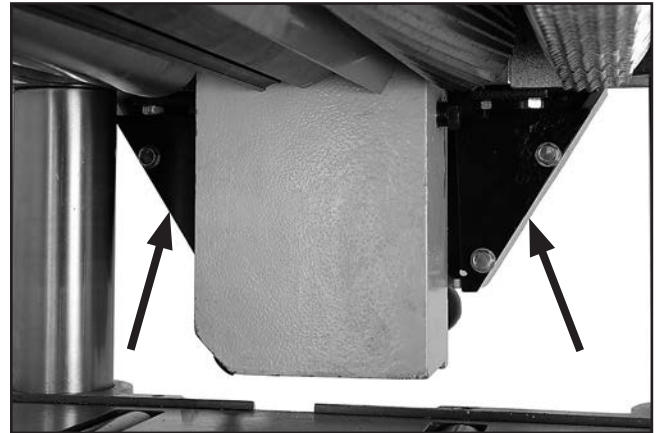

Figure 3. Sprocket cover rear guards.
9. Remove both rear guards from sprocket cover, as shown in **Figure 3**.